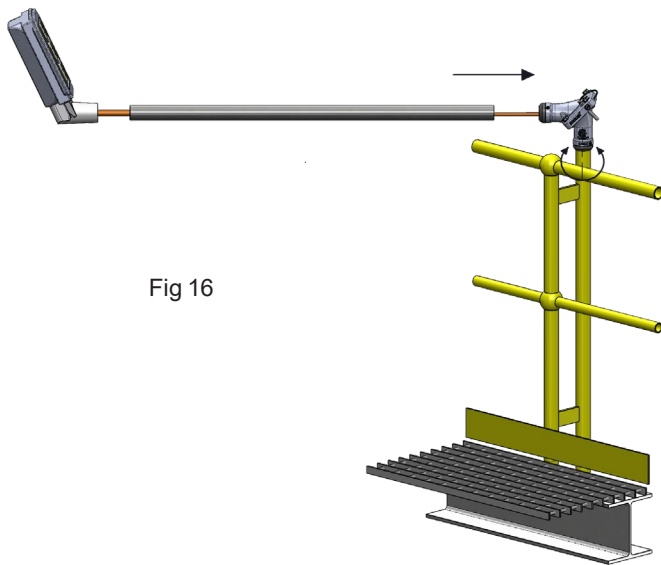

Fig 16
- Using the existing pole top or the new R2 pole top, feed through the cable, and slip into the Maxis™ joint. (Fig 16)